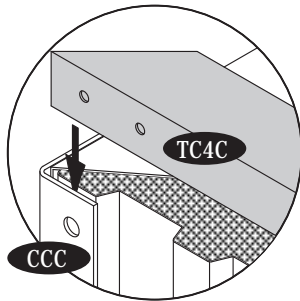

Fig.1
36. Insert corner column (CCC) to the wall panel edge by sliding. See fig.1. Make sure the corner column must be touching the wall panel. See fig.2. Line up the pre drilled holes with base 'U' channel (BC3C) and secure with (S1) screws from out side.